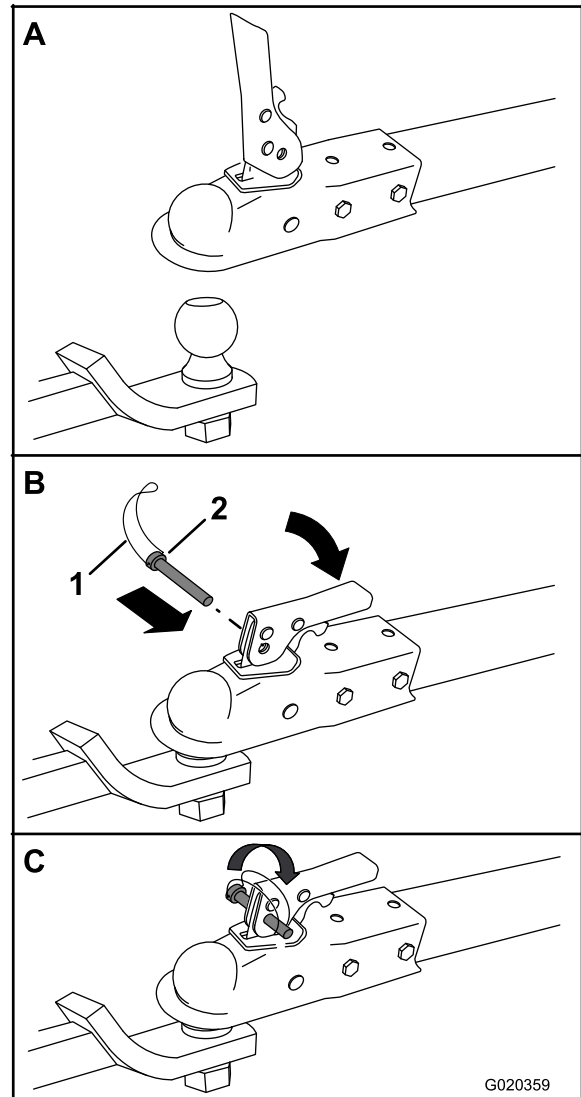

Figure 16
2. Open the coupler latch (Figure 16).
3. Position the coupler on top of the hitch ball (Figure 16).
4. Close the coupler latch (Figure 16).
5. Open the bail on the safety pin and insert the pin through the hole in the latch (Figure 16).
6. Rotate the free end of the bail over the end of the safety pin that is protruding through the latch (Figure 16).